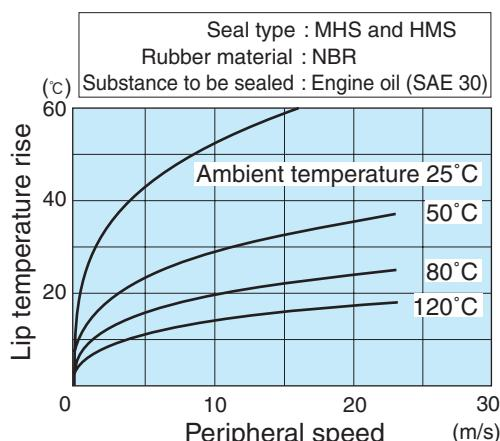

Fig. 1.6.2 Estimated lip temperature rise curves
- ② Determine the supposed ambient temperature
③ Find the point at which the ambient temperature curve meets the calculated shaft surface speed in Fig. 1.6.2
④ Read the ordinate value of the point
⑤ Obtain the estimated lip temperature by the sum of the ordinate value and ambient temperature
In Fig. 1.6.2, the cross of the curve for ambient temperature 80 °C and peripheral speed 10.5 m/s indicates that the lip temperature rise will be 20 °C.